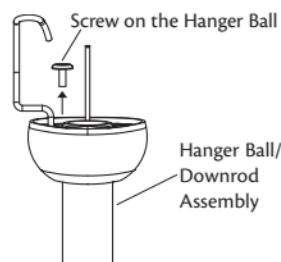

Figure 13 - Removing the screw from the hanger ball
- Remove the screw on the hanger ball to disassemble it from the downrod as shown in Figure 13.